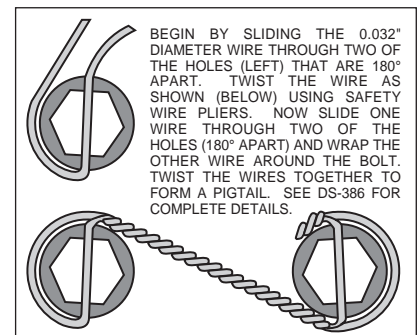

Figure 3. Safety Wire Diagram
- Identify the left and right caliper mounting brackets (1). Both brackets will be offset to the rear of the vehicle with the threaded inserts and the beveled bolt holes facing the outside of the vehicle. Apply red *Loctite*® 271 to bolt threads (2 and 5) before assembly of the caliper bracket (1) to dust face plate of spindle. Insert the two upper mounting bolts (2) and the lower mounting bolt (5) through the caliper mounting bracket (1). Install two washers (3) and two lock nuts (4) on the upper mounting bolts (2) and finger tighten. Install one washer (6) and one lock nut (7) on the lower mounting bolt (5) and finger tighten. Torque two bolts (2) to 47 ft-lb. Torque bolt (5) and (26) to 77 ft-lb. **NOTE:** Be sure the heads of the caliper bracket (1) insert nuts are facing outward toward the wheel.
- Install five new wheel studs (8) into the hub (9). Torque to 77 ft-lb. **NOTE:** There are two five lug patterns in the hub (5 x 4.00 and 5 x 4.50). Make sure of the correct hole pattern for the correct wheel application before installing studs into hub.
- Pack the large inner bearing cone (10) with high temperature disc brake bearing grease (available from your local auto parts store) and install into the backside of the hub (9). Install the grease seal (11) by pressing into the backside of the hub (9).
- Attach rotor adapter (12) to rotor (13) using six bolts (14). Torque bolts (14) to 180 **in-lb**. Safety wire bolts (14) using standard 0.032 inch diameter stainless steel safety wire as shown in Figure 3. Please refer to Wilwood's data sheet DS-386 (available at www.wilwood.com/pdf/ds386.pdf) for complete safety wire installation instructions. **NOTE:** The flat side of the rotor (13) lugs face toward the rotor adapter (12) with the dished side of the rotor adapter (12) facing away from the rotor (13).
- Mount the adapter/rotor assembly (12 and 13) to the hub (9) using five bolts (15). Torque bolts (15) to 22 ft-lb. Safety wire bolts (15).
- Pack the small outer bearing cone (16) with high temperature disc brake bearing grease. Lightly coat the spindle bearing surfaces with bearing grease. Slide the hub/rotor assembly (9 and 13) with outer bearing cone (16) onto the spindle. Secure using existing spindle washer, existing adjusting nut and nut locking device (adjust bearings per original equipment manufacturer specifications).
- Install the dust cap (18) onto the hub (9). Friction created by the o-ring (17) on the dust cap (18) keeps it from unscrewing. The O.D. of the existing spindle washer may be larger than the I.D. of the dust cap (18) not allowing it to seat against the hub face. Some grinding of the washer O.D. may be necessary to clear the I.D. of the dust cap.
- NOTE:** Please reference the caution statement at the beginning of the assembly instructions. With the bleed screws pointing up, mount the caliper (19) onto the caliper mounting bracket (1) using two bolts (21) and two lock washers (20). View the rotor (13) through the top of the caliper (19). The rotor (13) should be aligned in the center of the caliper (19). If not, loosen the two bolts (21) and adjust the caliper (19) by using 0.032 inch thick shim washers (22). The shim washers (22) should be placed between the caliper (19) and the caliper mounting bracket (1). Finger tighten and recheck alignment. Add as many shim washers (22) as necessary to achieve the correct alignment. Always use the same amount of shims on both the top and bottom caliper mounting bolts (21). Loosen the two bolts (21) and apply red *Loctite*® 271 to bolt threads (21) and torque to 30 ft-lb. Safety wire the two bolts (21).
- Install the disc brake pads (23) and secure using cotter pin (24). Repeat this procedure for the other wheel.